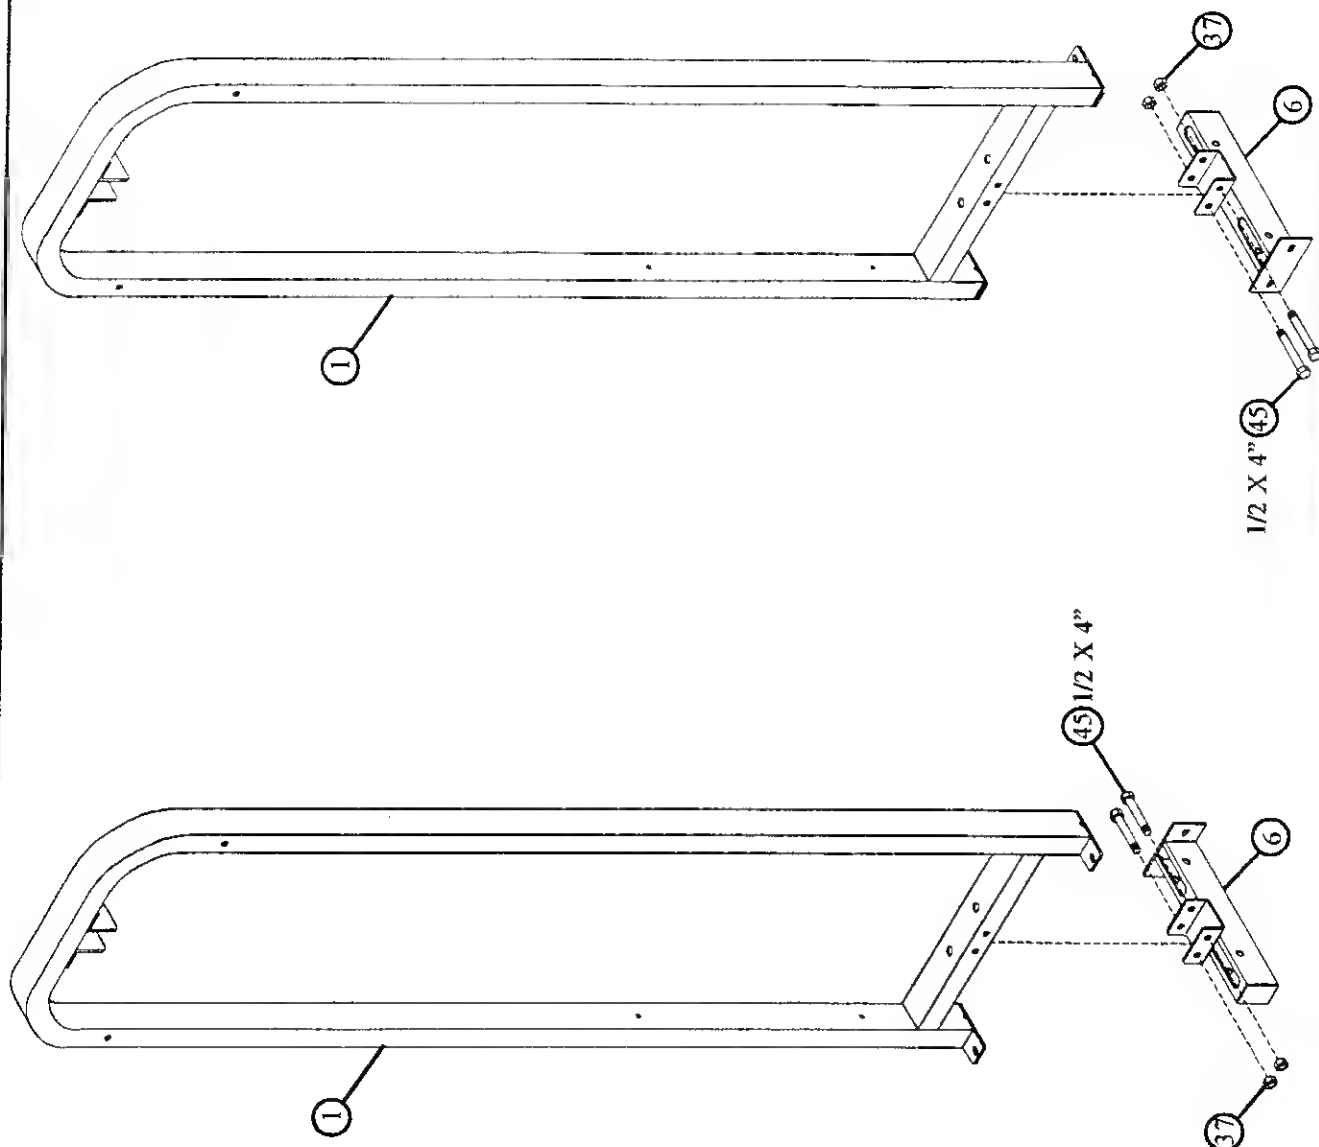

FIGURE 1
- SECURELY assemble the two LOWER PULLEY HOUSINGS (6) to the two TOWERS (1) using four 1/2 X 4" BOLTS (45) and four 1/2" LOCK NUTS (37) as shown in FIGURE 1.